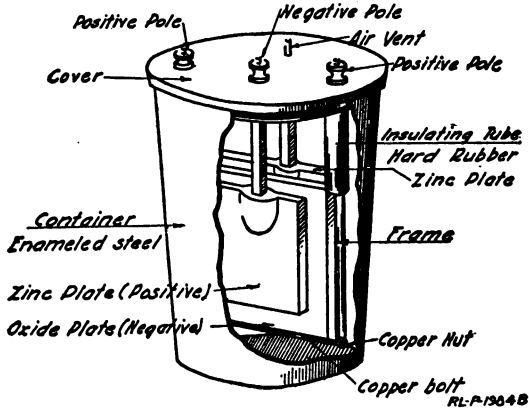

Fig. 12.—Edison primary cell, type BA-14
*e.* Tighten the nut on this copper bolt until the oxide plate is gripped firmly. It will be found that the three plates are nearly parallel, as shown in Figure 12, the oxide plate halfway between the two zinc plates, from each of which it is separated by a distance of three-eighths to one-half of an inch. The positive and negative elements must not touch.